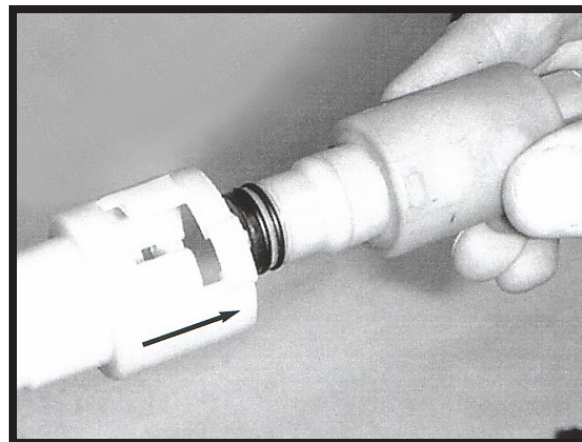

FIGURE 10-6
9. REMOVE SOLENOID FROM AIR SPRING. (FIGURE 10-6)